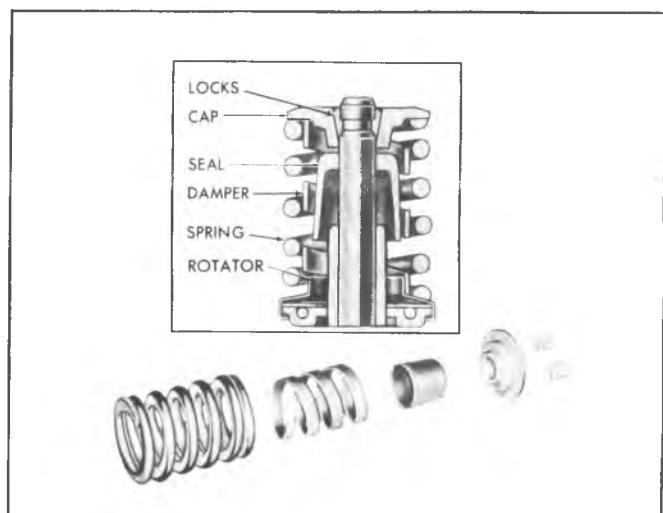

Fig. 6A5-23--Valve Spring Installation
- Set the valve spring (with damper); and valve cap in place (fig. 6A5-23).
- Check the installed height of the valve springs, using a narrow thin scale. A cutaway scale will help (fig. 6A5-24). Measure from the top of the shim or the spring seat to the top of the valve spring or valve spring shield (fig. 6A5-25). If this is found to exceed the specified height, install a valve spring seat shim approximately $1/16"$ (1.6mm) thick. At no time should the spring be shimmed to give an installed height under the minimum specified.